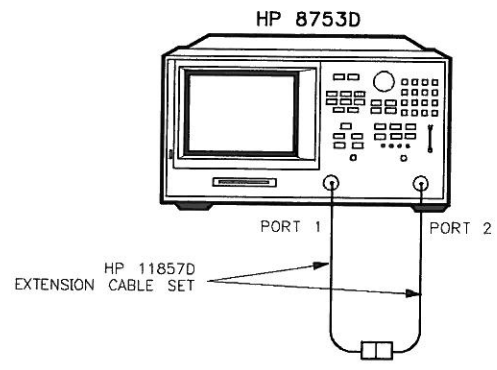

Figure 1-3. Transmission Calibration Setup
- 26. Connect the test port cables as shown Figure 1-3.